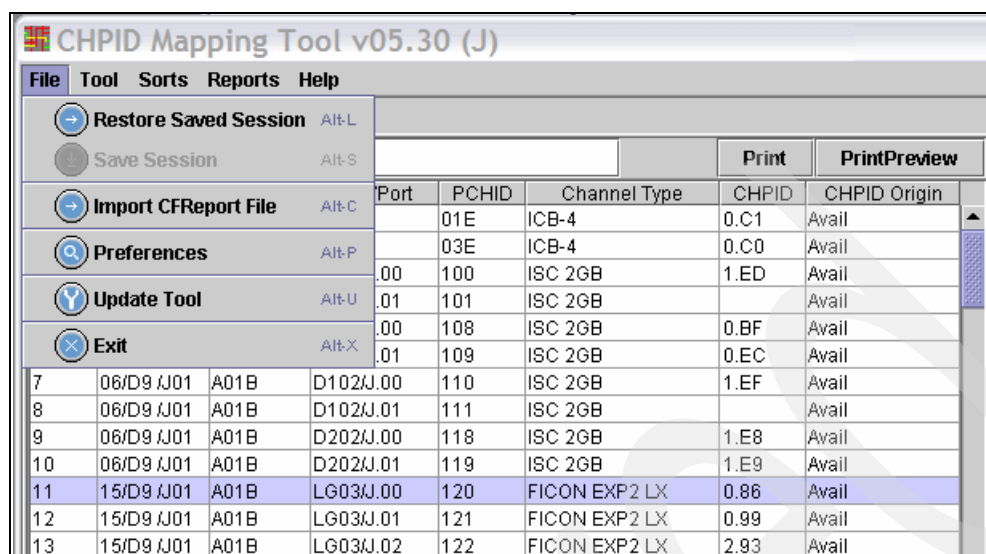

Figure 3-73 CMT - Exit program
- The CHPID Mapping Tool program can be shut down now. Click **File** → **Exit** (Figure 3-73).